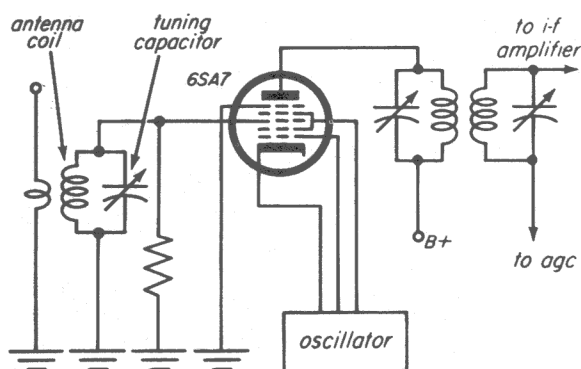

Fig. 31-3
Step 6. Slip the pickup coil over the antenna coil. Check to see that the other lead of the pickup coil is soldered to the ground terminal of the antenna coil, as shown in Fig. 31-3. Do not connect the external antenna to the pickup coil.
The new circuit produced by this wiring is shown in the schematic diagram of Fig. 31-3.